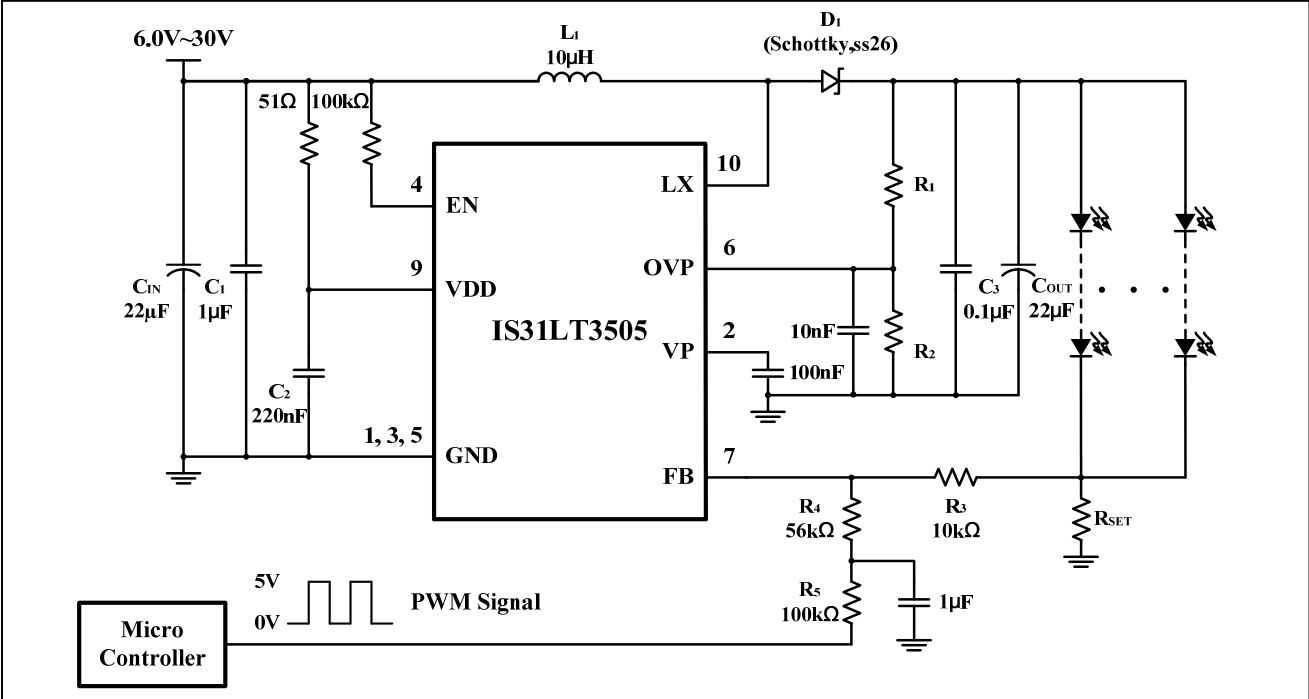

Figure 15 Application Circuit (Constant Current to Drive White LEDs With PWM Dimming)
A filtered PWM signal acts as the DC voltage to regulate the output current. The recommended application circuit is shown as Figure 15. In this circuit, the output ripple depends on the frequency of PWM signal. For smaller output voltage ripple, the recommended frequency of 5V PWM signal should be above 2kHz. To the fixed frequency of PWM signal and change the duty cycle of PWM signal can get different output current. The LED current can be calculated by the Formula (3). The internal feedback voltage V_{FB} is 0.3V (Typ.).
When it's the 5V PWM signal, the value of R3 should be 10k Ω . Refer to Figure 15.